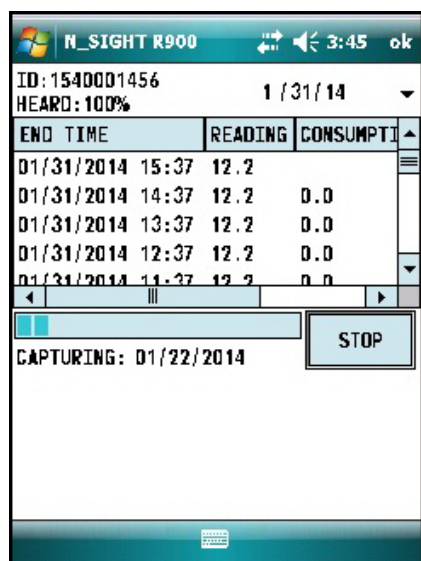

Figure 57 Receiving Data
- The data received is displayed on the screen. See Figure 57.